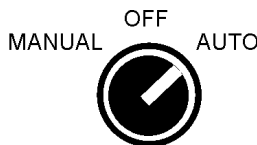

Figure 12. Control Box Power ON Indicator
3. Verify that the **ON** indicator (Figure 12) on the control box is **LIT**. This means that power is being supplied to the control box.